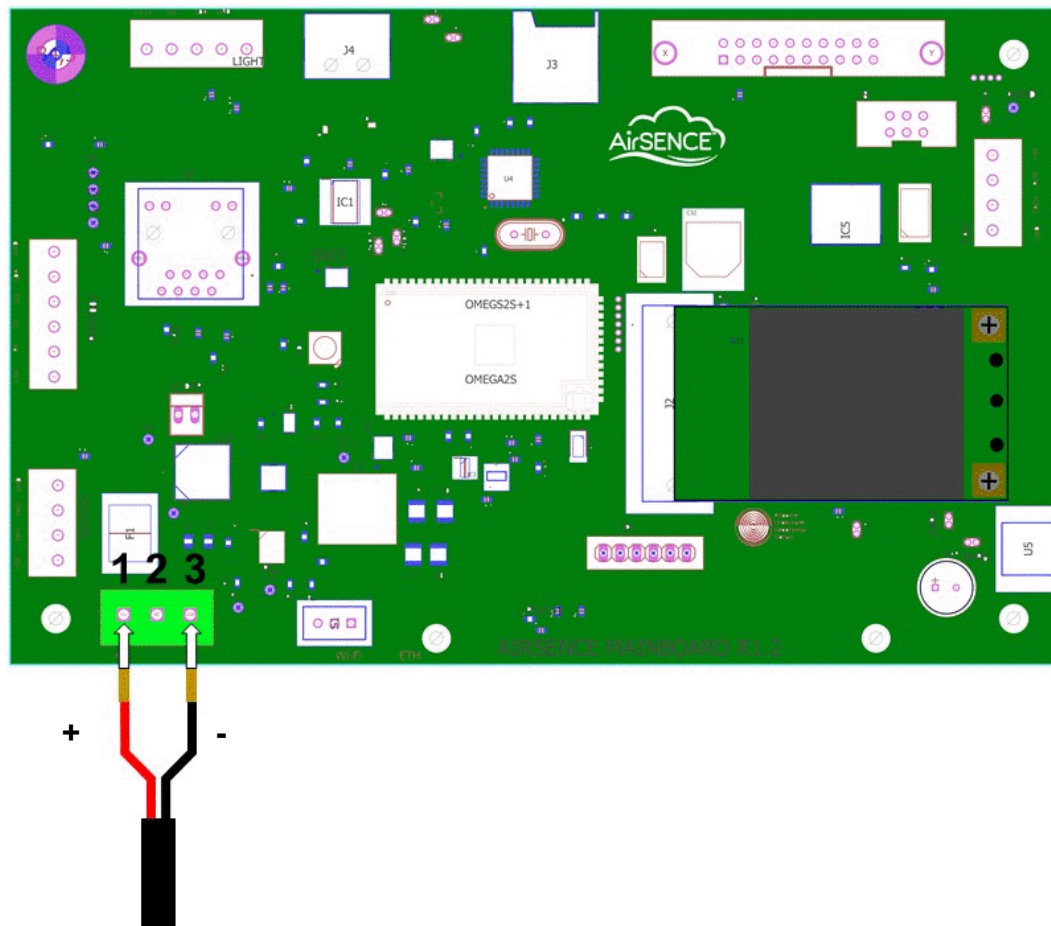

Figure 2.1. Mainboard diagram with power terminal block indicated.
1. Open the AirSENCE enclosure and locate the power terminal block at the lower left side of the mainboard (see Figure 2.1)